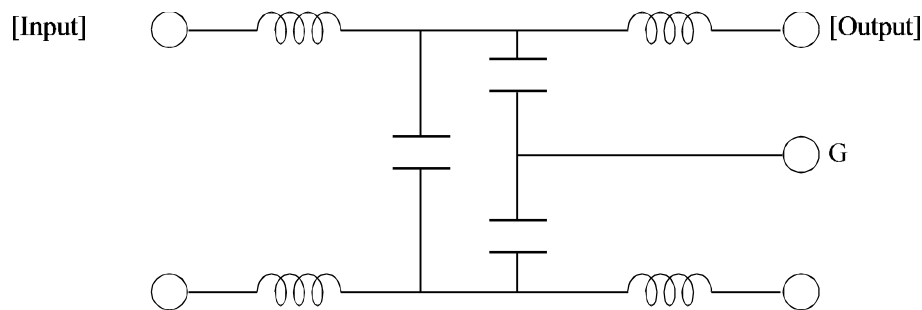

Figure 4.15 AC noise filter (recommended)
- Circuit construction: T-configuration as shown in Figure 4.15 is recommended.